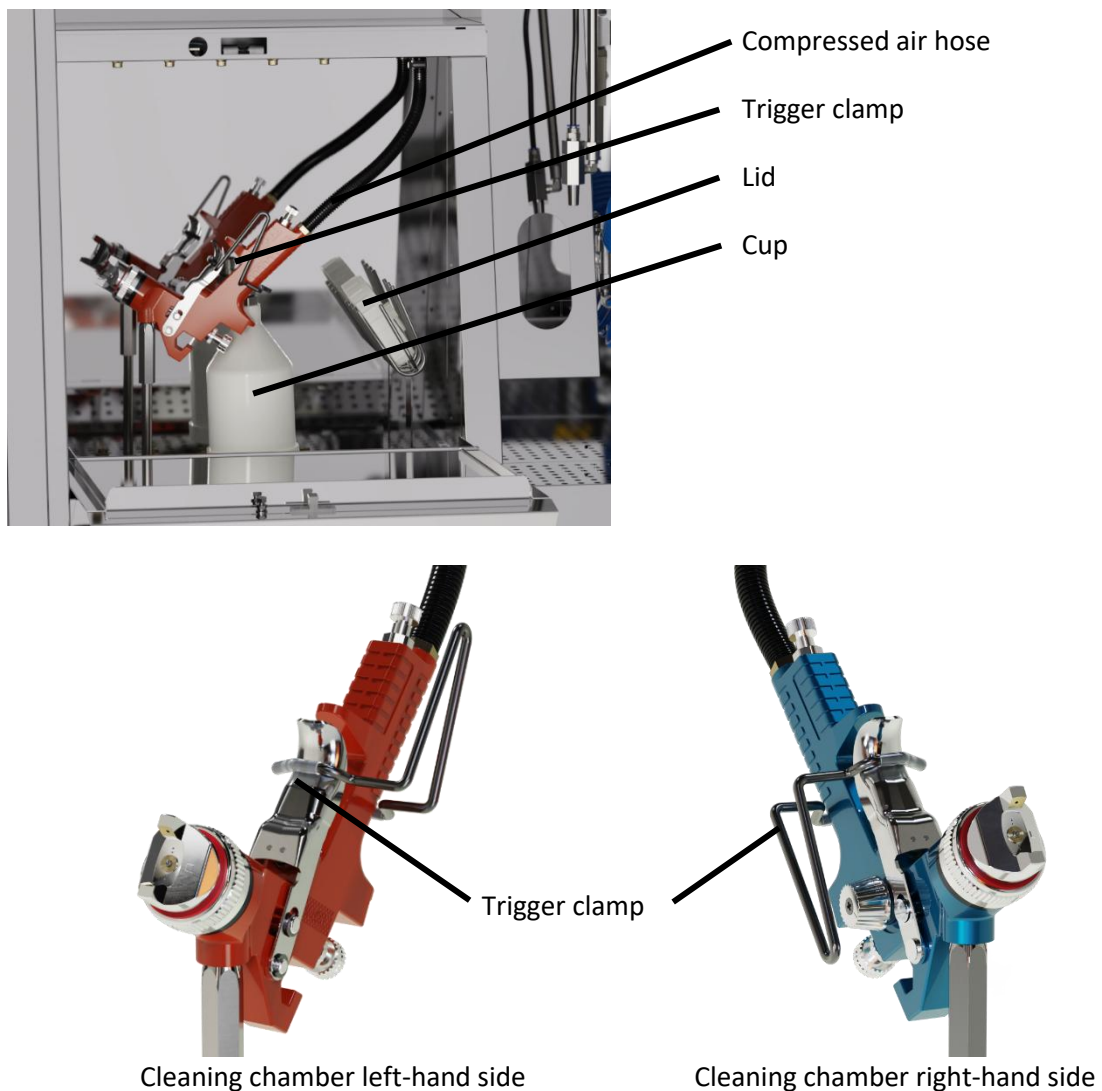

Figure 10-1
Open the main door. The exhaust suction system starts working automatically. Open the door of the automatic cleaning chamber and place the gun as follows (Figure 10-1):
3. Now the gun is inverted. **Pull back the trigger** and dip it with the trigger clamp. Keep trigger clamp always in cleaning chamber. This ensures that the paint channel is opened for cleaning and remaining paint can drain from cup connection socket. Make sure that the tension clamp is correctly aligned (Figure 10-1)!